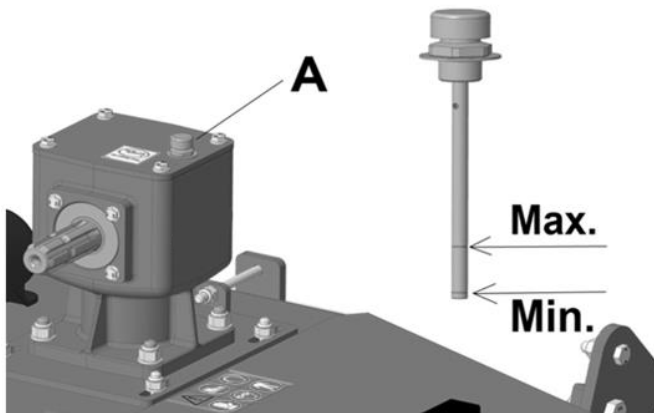

Figure 14
1. Remove the dipstick of the breather plug [Figure 14, Item A].
If the oil level is below the minimum line as indicated in Figure 14, fill the gearbox with the correct lubricant until it is at the correct level.